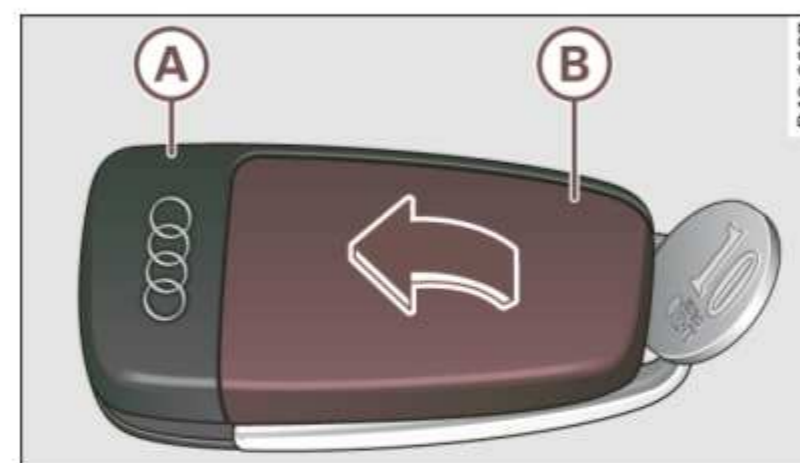

Fig. 30 Remote master key: opening the cover
- Pry apart the base ⇒ *page 40*, fig. 30 **(A)** and the cover **(B)** **carefully** with a coin.